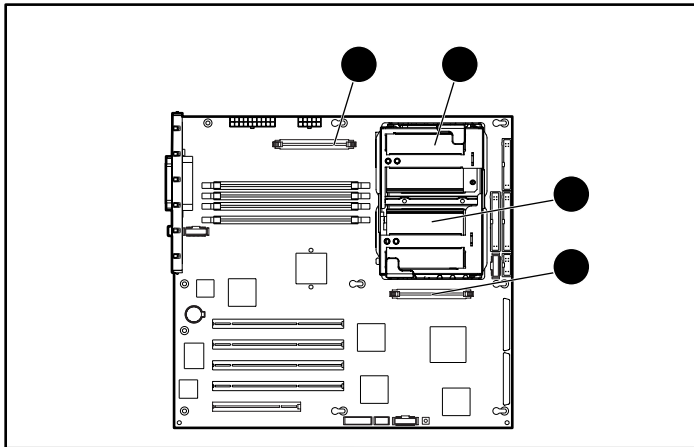

Figure 3-28: Locating the processor sockets and Processor Power Module (PPM) slots
3. Locate the processors and PPMs, as shown in Figure 3-28 and Table 3-4.